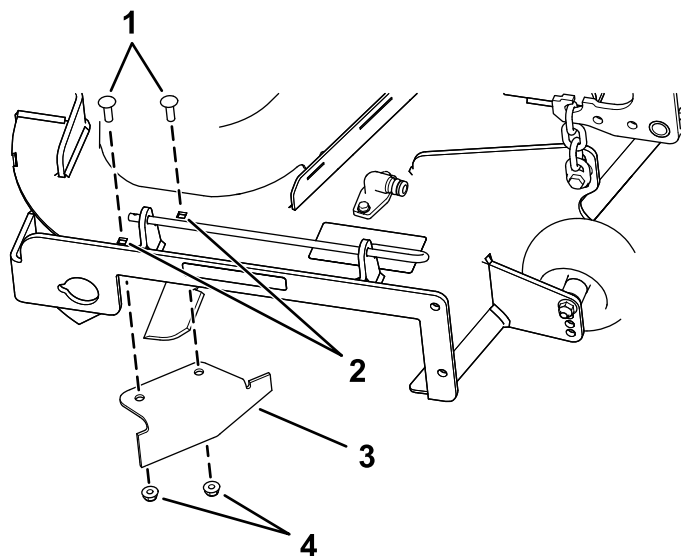

Figure 31
9. Locate the cutoff baffle in the loose parts bag and remove the fasteners at the rear holes of the discharge plate (Figure 31).